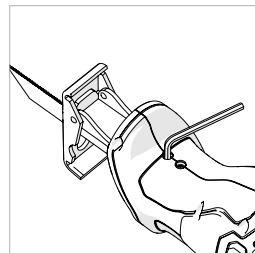

Fig. 4
1) Loosen the 2 screw grubbs under the front handle. (Fig.4)